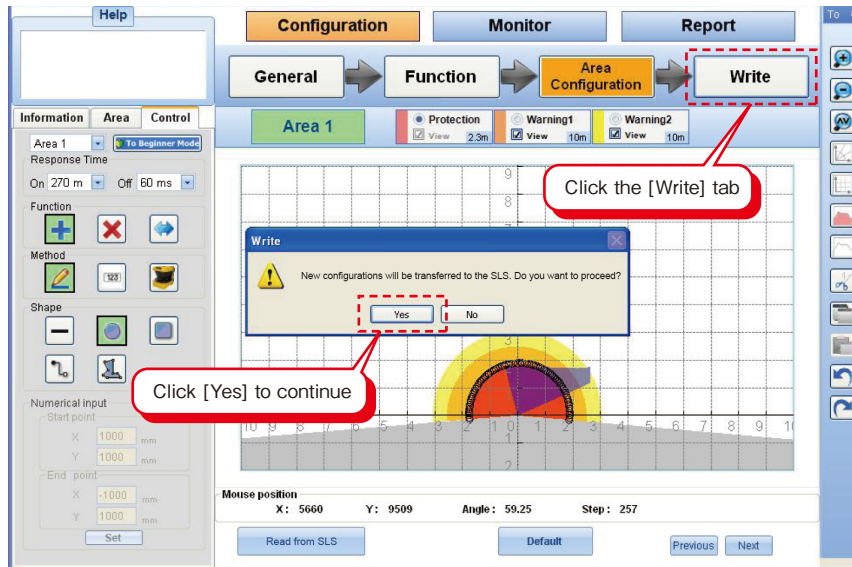

Figure 7-50. Writing configurations to SE1L
- a) Click the [Write] tab as shown in figure 7-50.
- b) A window requesting for confirmation as shown in figure 7-50 will be displayed.